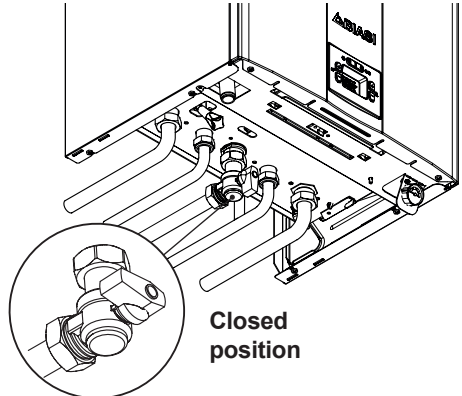

Figure 2.13
- close the boiler cocks Figure 2.13;